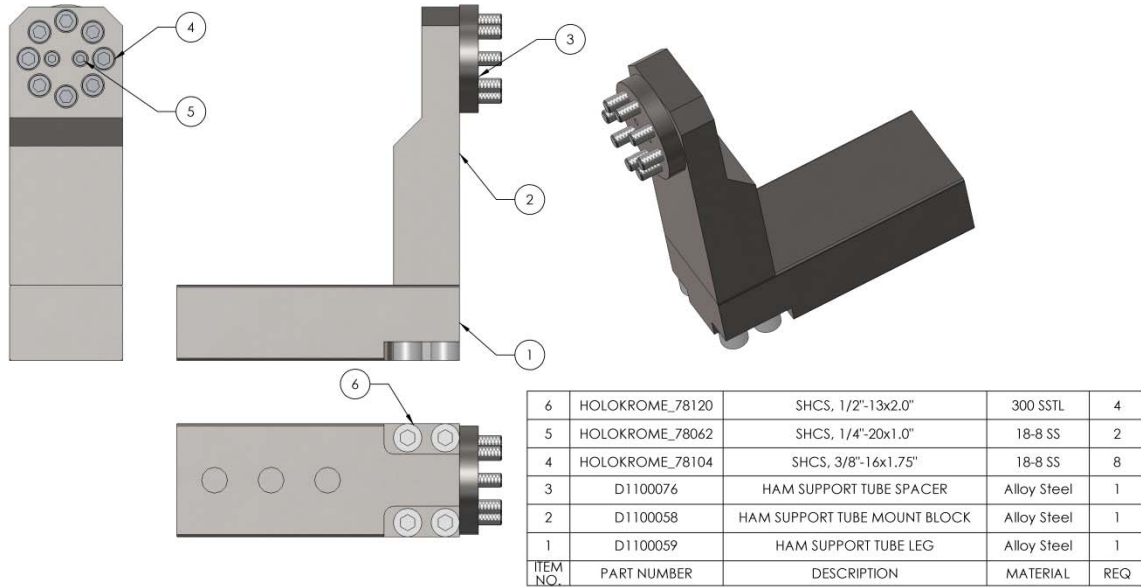

Figure 2
4. Assemble D1100077 see Figure 2. and Drawing D1100077
5.1 Mount the Support Tube Arm Assy (D1100077) to the Support Tube D972610. Place the Jack Screw and table under (D1100077) level table. There are 3 holes on the bottom side of the (D1100077) which will accept the shaft of the jack screw. See Figure 2, adjust to allowable space. Level the table using precision levels. The sites must design the leg structure supporting the table, jack screw and Support Tube Assy. due to the space limitations. When two chambers are mounted adjacent to each other the space is very restricted. Good Planning is required.